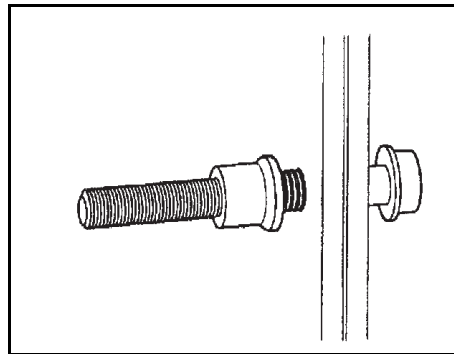

Figure 2.9 Place Collar
2. Place the collar over the fastener pintail (Figure 2.9)